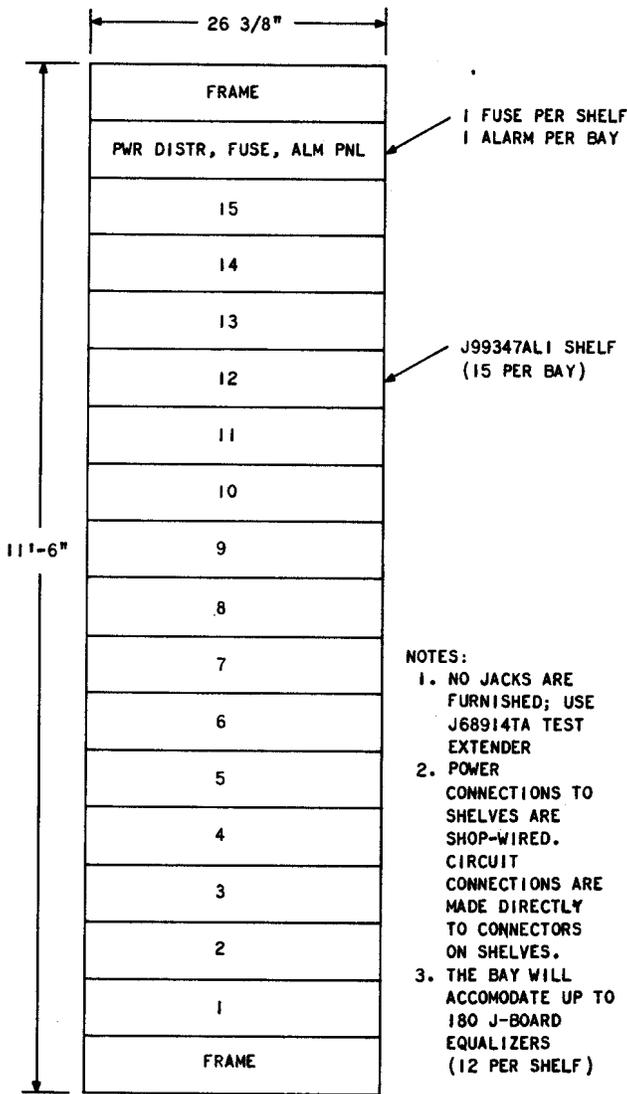

Fig. 3—J-99347B-L1 Shop-Wired Bay For Up to 180 J-99347AA Equalizer Units
**2.02** The J-board bay (Fig. 3) is approximately 11.5 feet high and 26.5 inches wide. Each J-board bay contains 15 J-99347A-L1 shelves, and each shelf provides 12 positions for J-board equalizers and associated apparatus. The J-board bay can provide 180 J-board equalizer positions, which can be connected into the data transmission facilities as required. A fuse and alarm panel mounted at the top of the bay provides fuse-protected battery voltage to each of the 15 shelves and a central office minor alarm circuit to alert maintenance personnel. A visual alarm is provided by a fuse